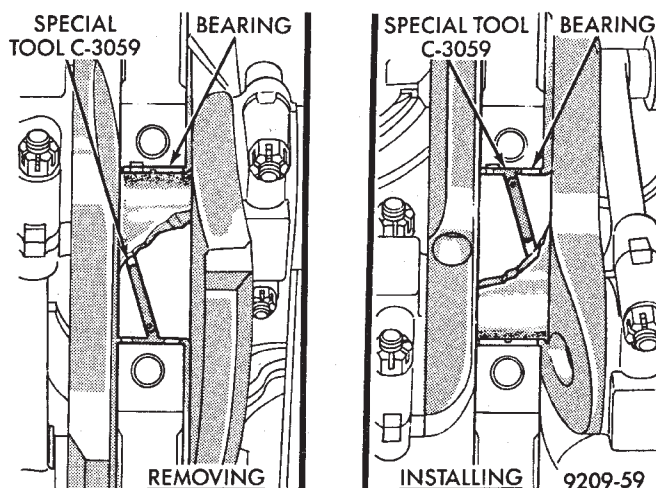

Fig. 32 Upper Main Bearing Removal and Installation with Tool C-3059
- (1) Remove the oil pan.
- (2) Remove the oil pump from the rear main bearing cap.
- (3) Identify bearing caps before removal. Remove bearing caps one at a time.
- (4) Remove upper half of bearing by inserting Crankshaft Main Bearing Remover/Installer Tool C-3059 into the oil hole of crankshaft (Fig. 32).
- (5) Slowly rotate crankshaft clockwise, forcing out upper half of bearing shell.
- (1) Start bearing in place, and insert Crankshaft Main Bearing Remover/Installer Tool C-3059 into oil hole of crankshaft (Fig. 32).